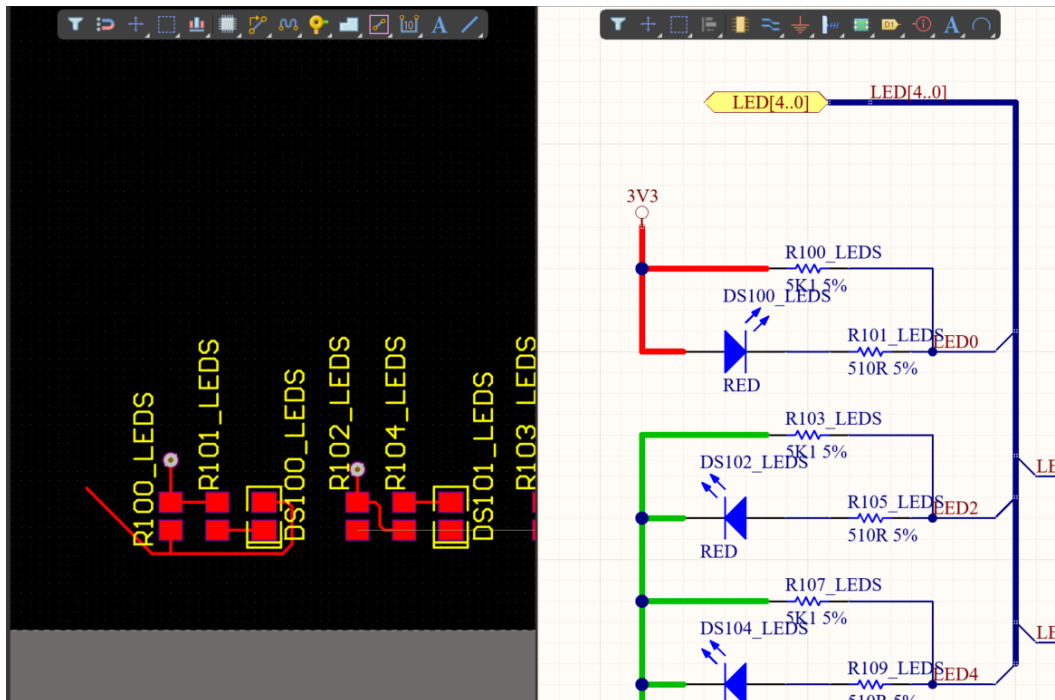

Figure 19. Designator synchronization between the SCH and PCB
53. The designators in the SCH and PCB will now look similar to what is shown in Figure 19